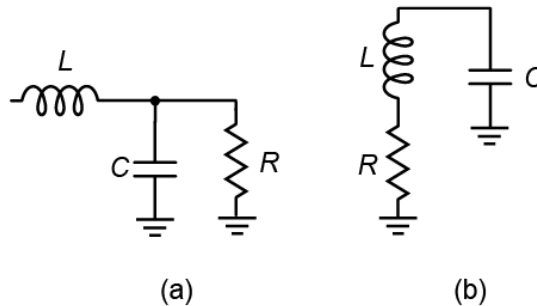

Figure P16.1 Impedance transformation: (a) parallel-to-series; (b) series-to-parallel.
In this problem, we will study series-to-parallel and parallel-to-series impedance transformations. Assume that the circuits shown in Figure P16.1 operate at 6.785 MHz.
- Let $L = 2 \mu\text{H}$, $C = 10 \mu\text{H}$, and $R = 2.2 \text{ k}\Omega$ in Figure P16.1 (a). Transform the parallel resistance into a series resistance.
- Let $L = 3 \mu\text{H}$, $C = 15 \mu\text{H}$, and $R = 1 \Omega$ in Figure P16.1 (b). Transform the series resistance into a parallel resistance.